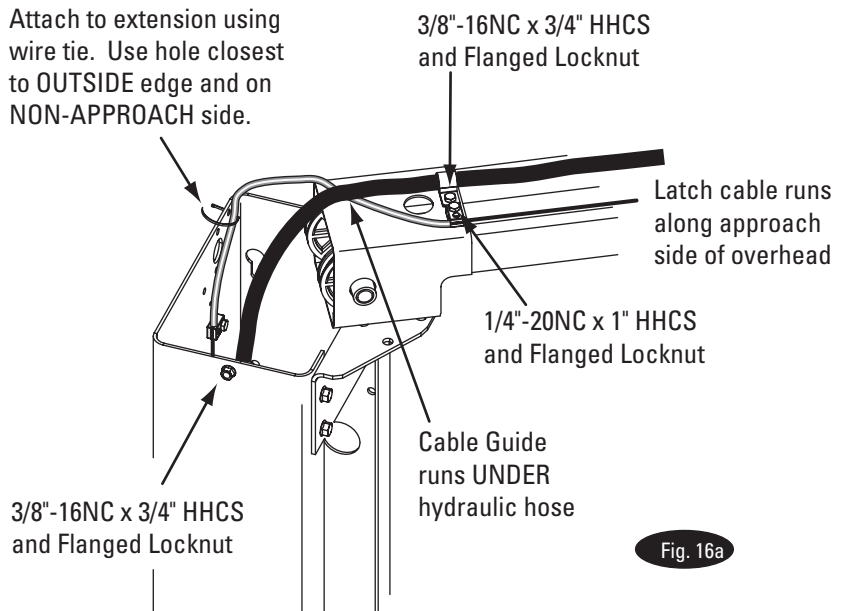
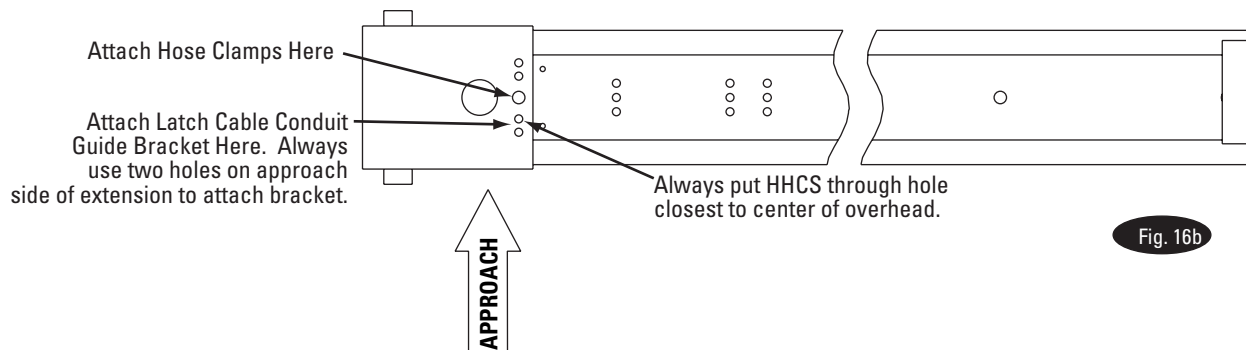
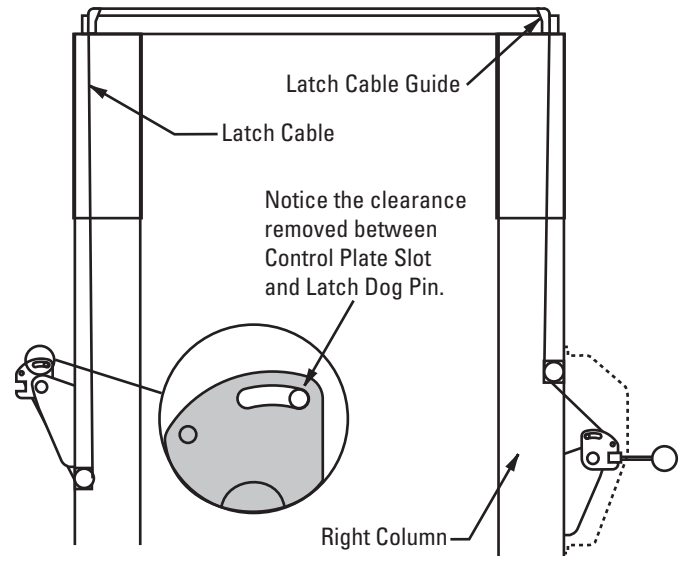
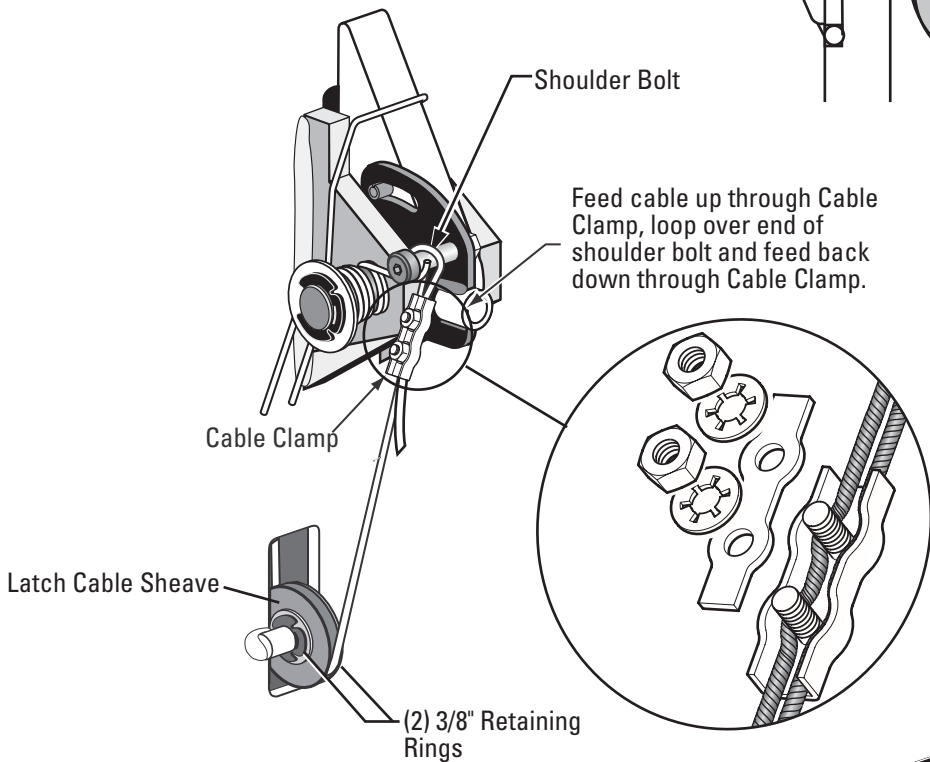

Fig. 16a
Fig. 16b
Fig. 18
Fig. 19
NOTE: Route Power Unit hose inside columns using slots provided at column base, Fig. 14. Route Overhead Hose in column channel on outside of column, Fig. 14. Overhead hose goes over top end of overhead assembly, Fig. 12 & Fig. 16a & Fig. 16b.
- D) Attach latch cable conduit guide brackets to overhead as shown, Fig. 16a & Fig. 16b. Always use the holes on the approach side of the lift. HHCS should be in hole nearest the center of the overhead, Fig. 16b.
- E) Route cable up inside column and through the latch cable guide, Fig. 16a & Fig. 18.
IMPORTANT Using wire ties provided, tie off cable guide to column extension as shown, Fig. 16a. Guide must be attached in hole closest to the outside edge of the column on the NON-APPROACH side.
- F) Continue routing cable to the left column latch cable guide, Fig. 16a & Fig. 18, routing the cable through the left column latch cable guide, Fig. 16a.
- G) Bring the cable down inside the left column and feed the end of the cable through the lower latch cable sheave slot so that the cable is now back outside the column, Fig. 19.
- H) Install latch cable sheave and retaining rings in lower slot of non-power unit column as shown, Fig. 19.
- I) Route cable under the bottom side of the latch cable sheave, Fig. 19.
- K) Insert cable in cable clamp along one side, loop around shoulder screw and back down, inserting cable along other side of cable clamp, Fig. 19. Place top back on clamp, barely tightening.
- L) Next, pull the control plate down, Fig. 18 & Fig. 19, to eliminate any clearance between the control plate slot and the latch dog pin, Fig. 18.